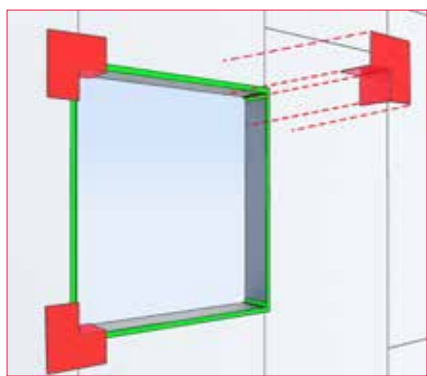
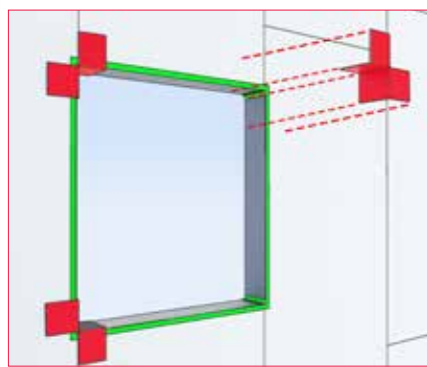

Fig 7a: Wraptite Corners used in corners.
Fig.8a: Wraptite Tape used in corners.
3. Finish door and window detailing by using either Wraptite Corners (Figs 7a,b) or a combination of Wraptite Tape and Wraptite LF (Figs 8a-d).